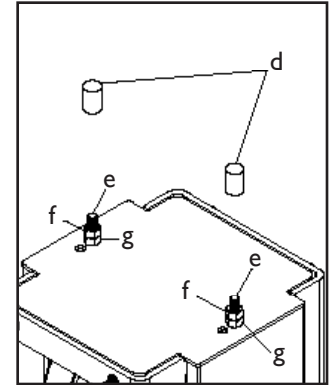

Figure 7: Tensioning the belts
4. To adjust the tension, remove the nylon bolt caps (d) that cover the adjustment bolts (e). Loosen the top nut (f) first, then adjust the tension by turning the bottom nut (g). Re-tighten the top nut when the belts are properly tensioned and replace the nylon bolt caps. Replace the side cover when finished (Figure 7).